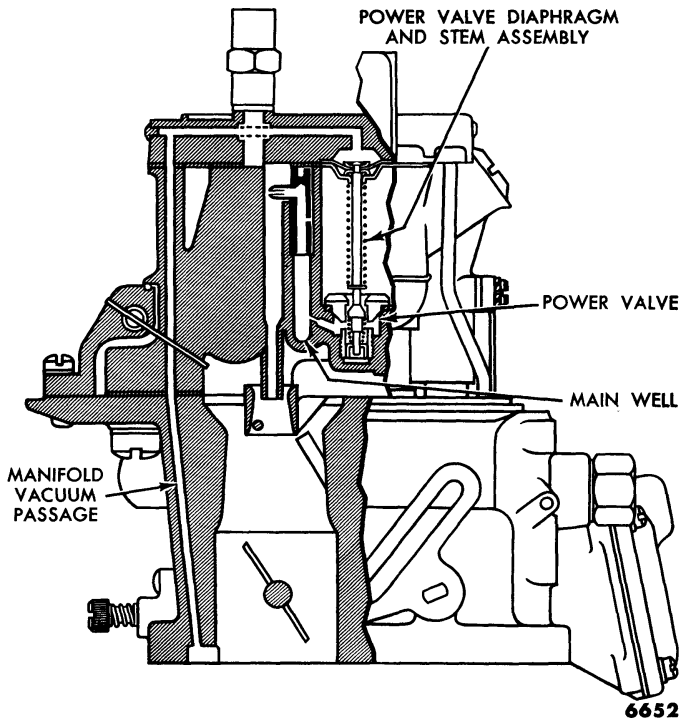

Fig. 55—Power Fuel System
(4) **POWER FUEL SYSTEM.** During periods of high power operation, the carburetor has a tendency to lean out as the air flow is increased. To supplement the main and secondary fuel systems, additional fuel is required to maintain the proper fuel-air ratio. The added fuel required during this period is supplied by the power fuel system (fig. 55).